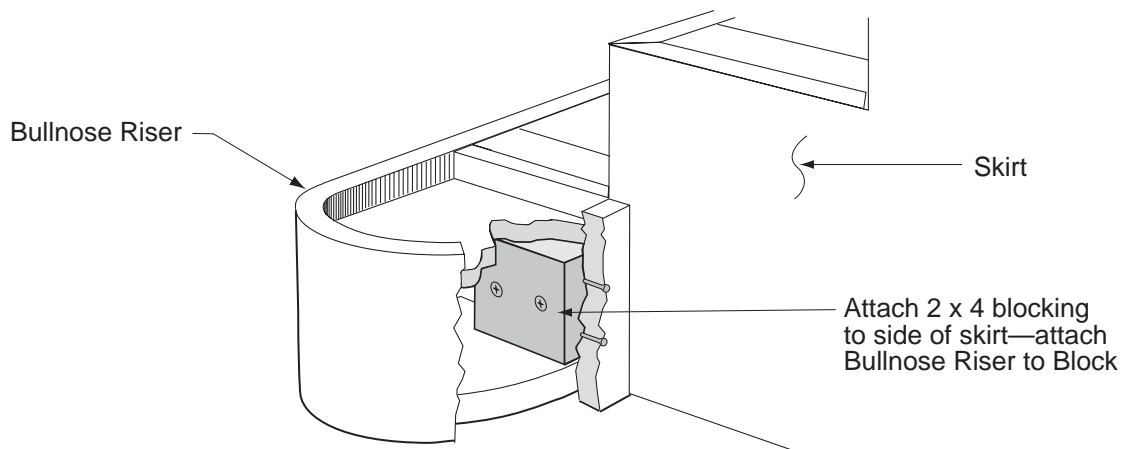

Fig. 2-13 VIEW AA
10. Add blocking to attach bullnose riser to skirt. Please note Fig. 2-13 here.